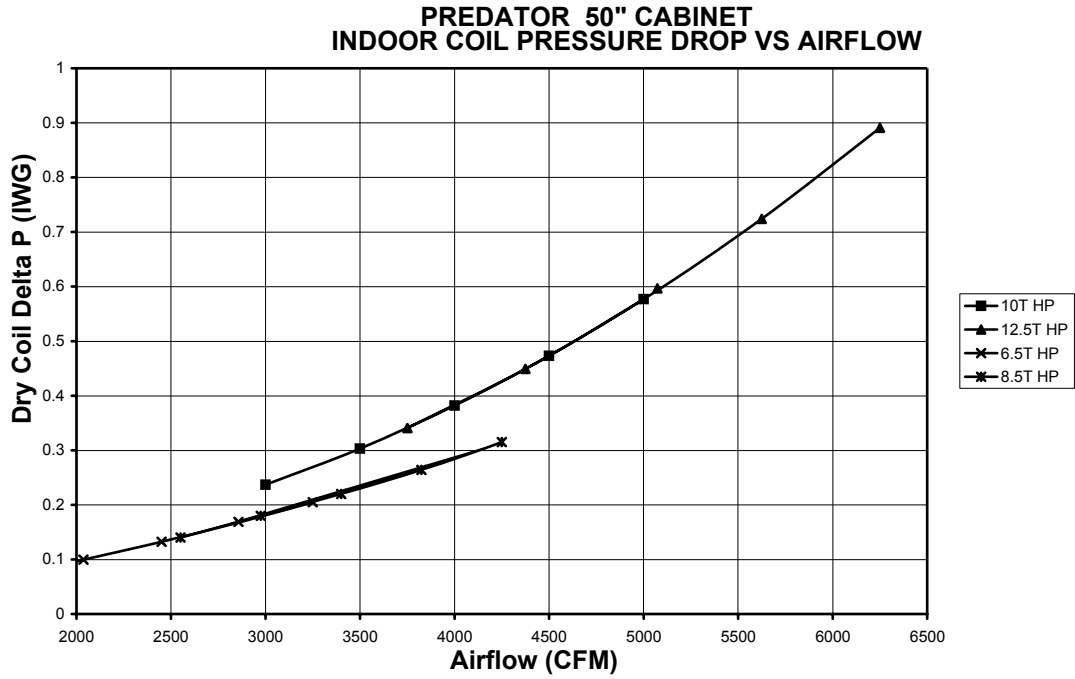

FIGURE 23 - DRY COIL DELTA P 50" CABINET
4. The CFM through the unit can be determined from the pressure drop indicated by the manometer by referring to Figure 23. In order to obtain an accurate measurement, be certain that the air filters are clean.